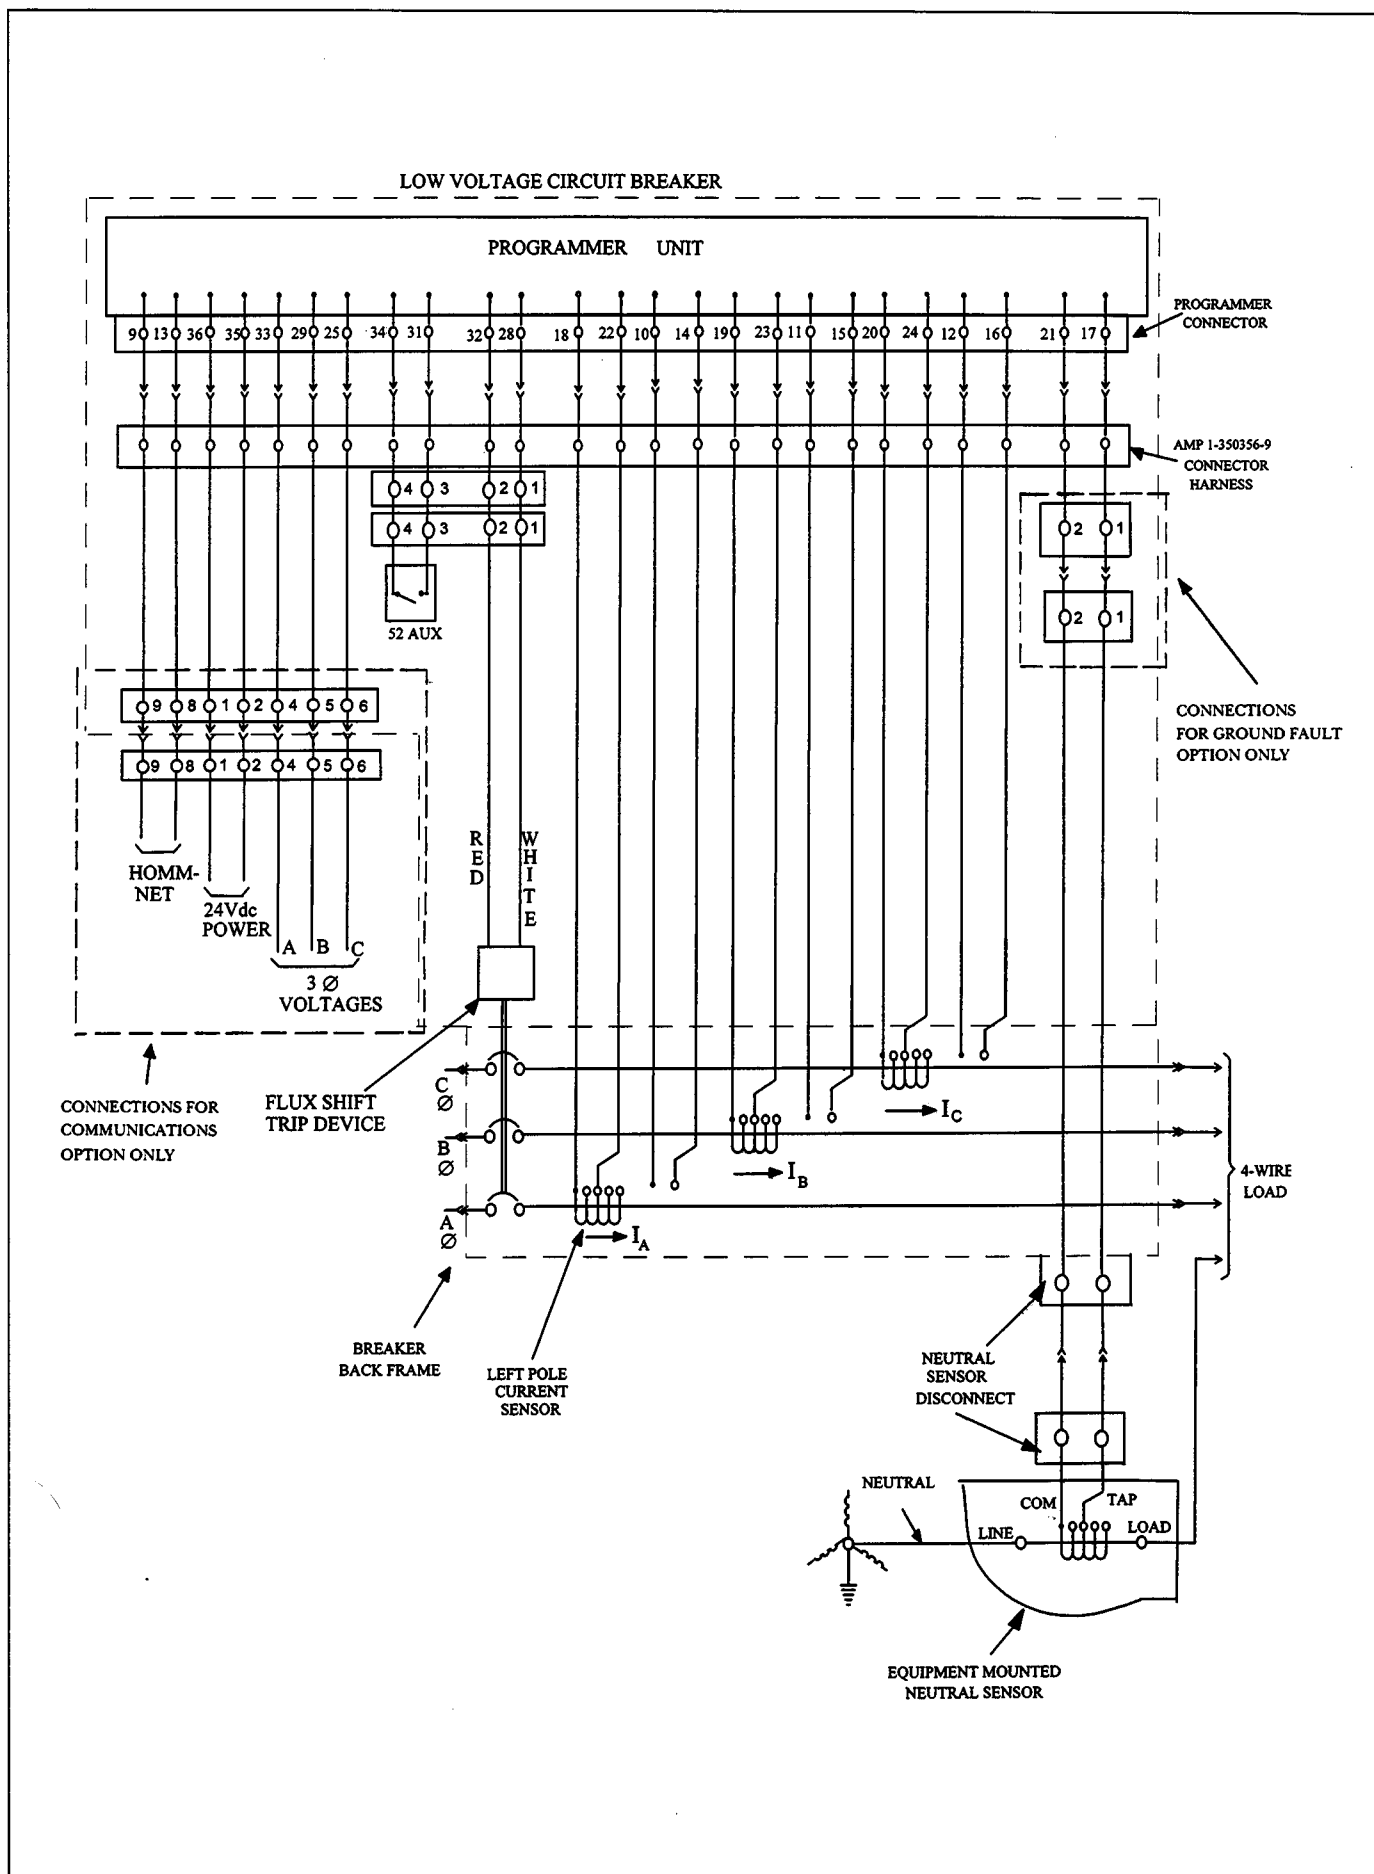

Figure 8-1. Cabling Diagram - MicroVersaTrip Plus and PM with Ground Fault on 4-Wire Load
On ground fault breakers serving four-wire loads, check that the neutral sensor is properly connected. See cabling diagram Fig. 8-1. In particular, the following:
- C. If the breaker's lower studs connect to the supply source, then the neutral sensor must have its load end connected to the source. See Fig. 8-1.